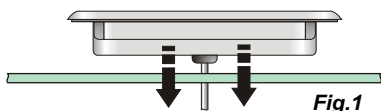

Fig.1
**Step 1** - Clean area and insert spaside control. (Fig.1)